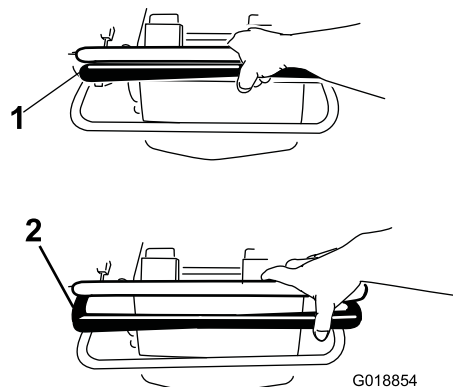

Figure 15
- To move forward, press the traction-control bail forward (Figure 15). Adjust the speed with the throttle.
- To stop, release the traction-control bail (Figure 15).